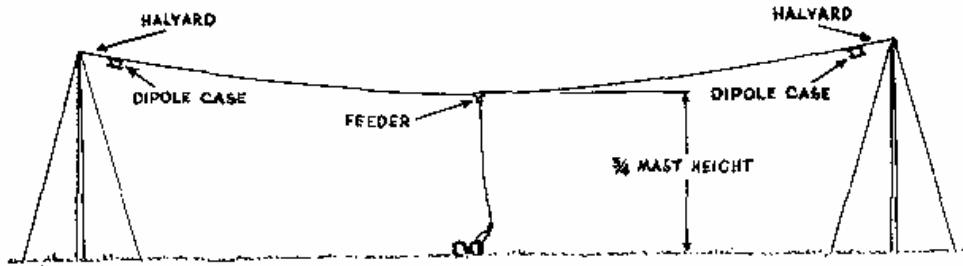

FIG. 23 - DIPOLE AERIAL SET UP BETWEEN MASTS
62. The preferred arrangement for sky wave communication is to have the dipole strung between two masts, thus keeping the wire horizontal. (See Fig. 23). Trees may be used when masts are not available, but it is important to keep the aerial clear of foliage.